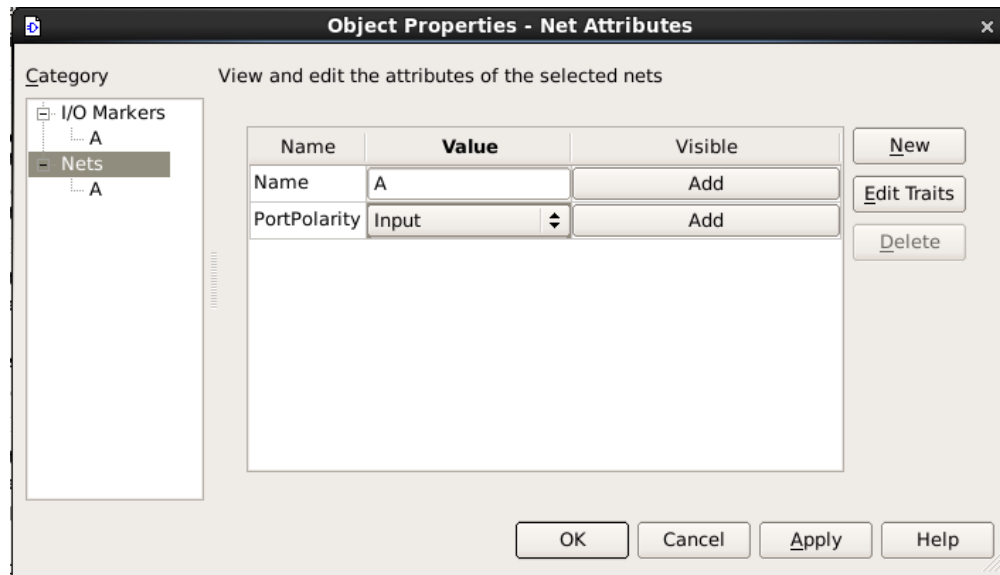

Figure 12: Object Properties dialog box.
- Go back to Select Mode  and double left-click on an I/O marker. When the I/O marker's object properties dialog box appears, select the Nets category. In this dialog box, enter a meaningful value for the Name field of the I/O marker, and ensure the port has the proper polarity. The finished dialog box should look similar to Figure 12.